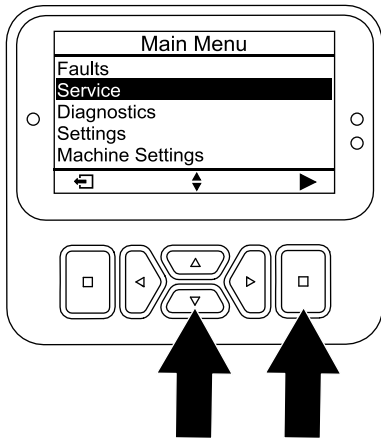

Figure 105
3. Press the down button until the SERVICE option is selected, then press the select button (Figure 105).